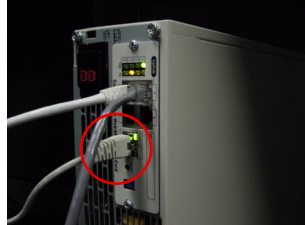

Figure 5. Install Configuration Cable
1. Plug the RJ-45 end of the supplied configuration cable (labeled "PC") into the COM port on the card (see Figure 5).